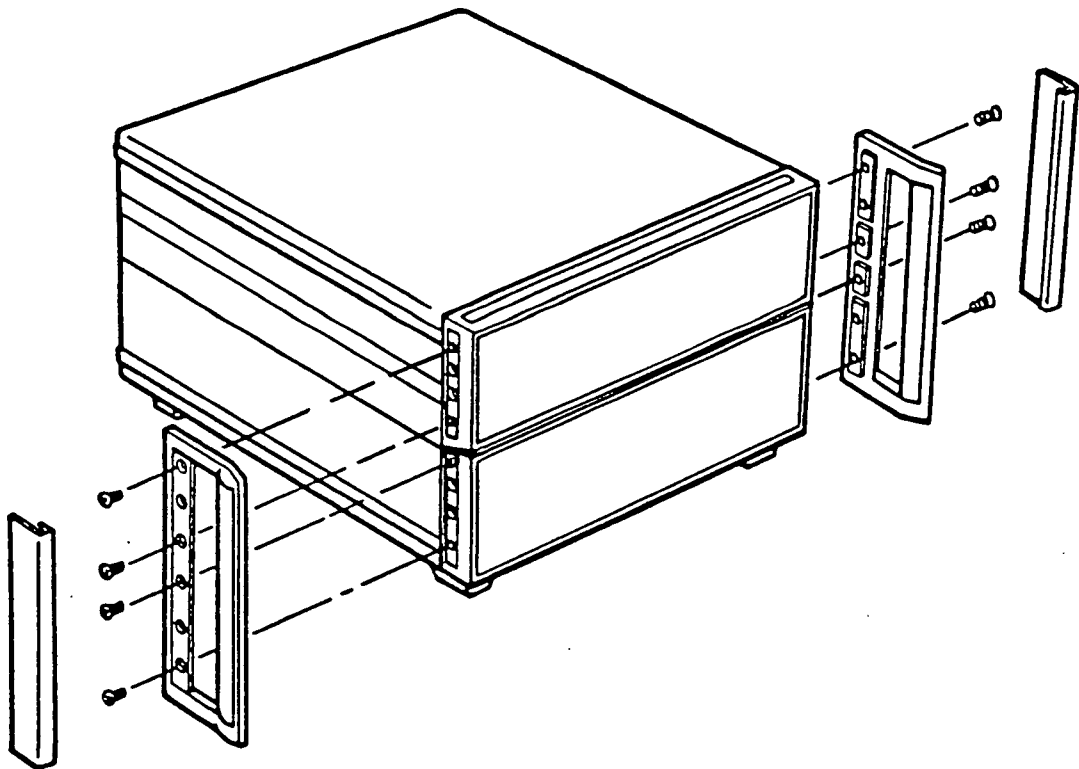

FIGURE 2. INSTALLING RACK MOUNT KIT
2. Attach the new rack mount flanges and front handles provided in the Rack Mount Kit. (See Figure 2.) Use the eight 8-32x5/8 pan-head screws included in this kit.
2. Attach the new rack mount flanges and front handles provided in the Rack Mount Kit. (See Figure 2.) Use the eight M4x0.7x16 pan-head screws included in this kit.
5. Install the two 10 pF capacitors on the A10 assembly. See Figure 2.